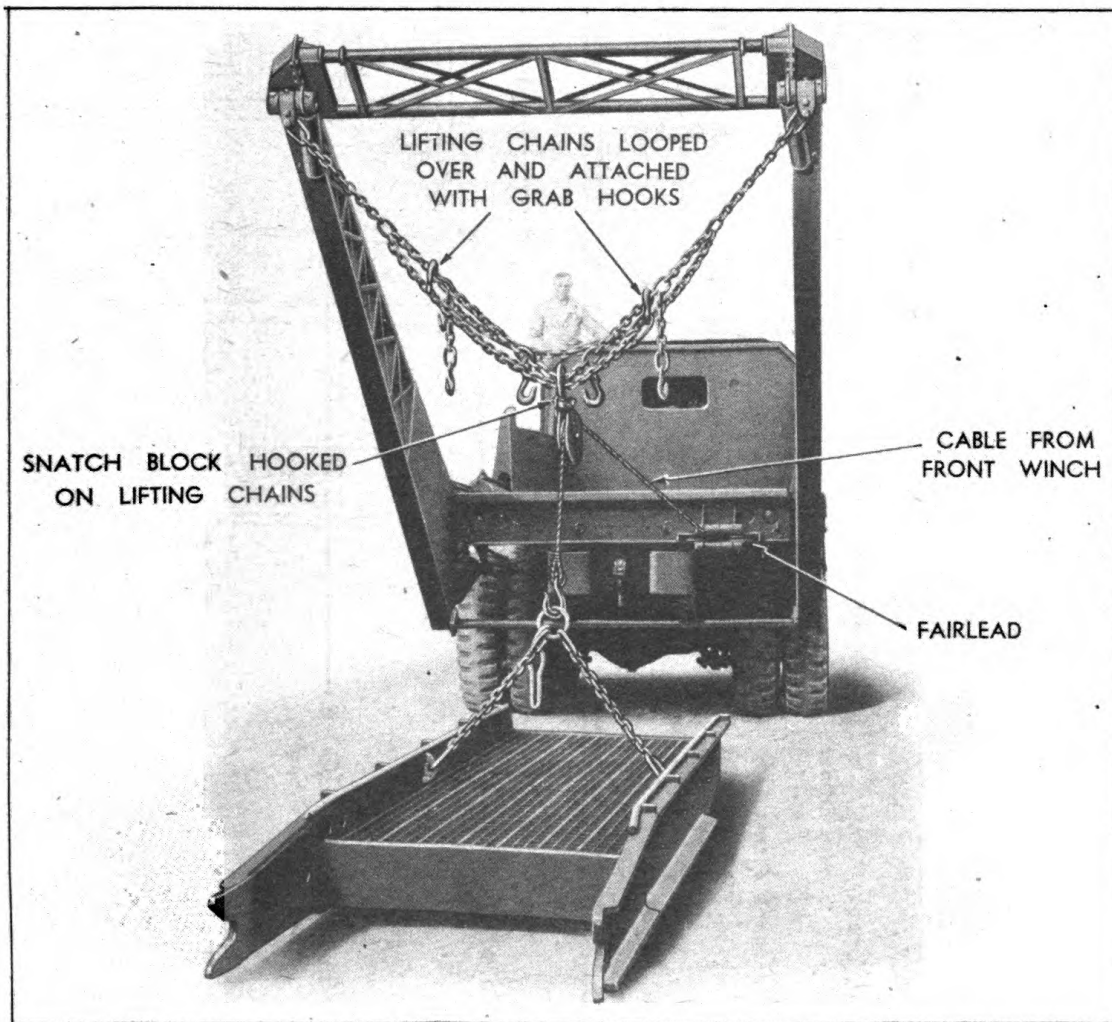

Figure 32. Using Snatch Block and Cable to Handle Treadways.
(1) When it is necessary to lower treadways to a point lower than that attainable with the chains supplied, it is necessary to use the winch on the front of the truck and the snatch blocks carried in the tool box.
(2) Bring the ends of the outer lifting chains over to their opposite sides so they form an even loop with the center chain section and attach the GRAB HOOKS to the chains as shown in Figure 32. Attach the snatch block to the exact center of the chain loops, as this will distribute the load evenly to both booms.
(3) Install the hooks of the lower treadway hook assembly into the holes on the treadway sidewalls from the inside and lock in the vertical position as shown.
(4) Bring the cable from the small drum of the front-mounted truck winch back through the fairlead at the right rear corner of the truck. Thread the cable over the snatch block pulley as shown in Figure 32 and fasten suitably to the large round ring of the lower treadway hook assembly.